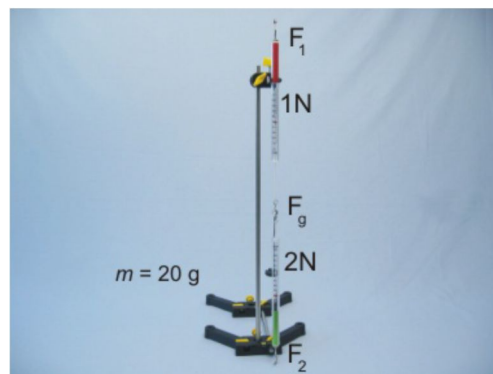

Fig. 16
- Hang the 2 N spring balance upside down on the hook of the other spring balance and pull it downward several times with different forces (Fig. 16).